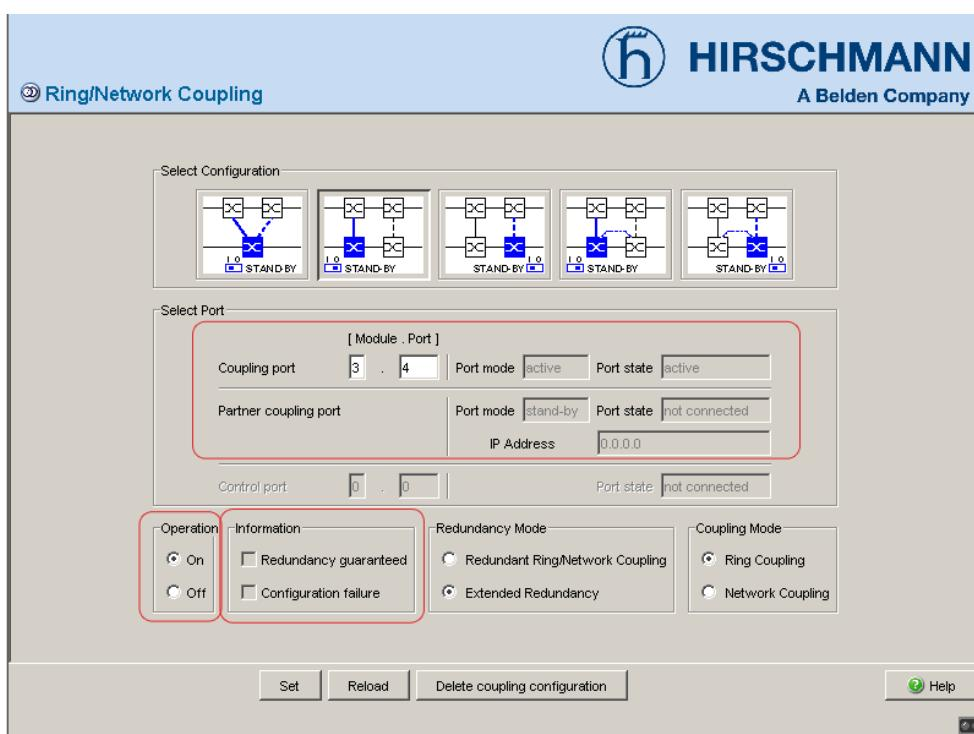

Figure 15: Selecting the port and enabling/disabling operation
- Select the coupling port (see fig. 15), (see table 9).
Activate the function in the “Operation” frame (see fig. 15).
The displays in the “Select port” frame mean (see fig. 15):
The displays in the “Information” frame mean (see fig. 15):
- Activate the function in the “Operation” frame (see fig. 15).